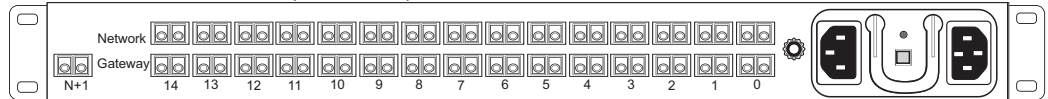

Figure 1.4
- If the 7800 series gateway employs N+1 protection, one to two 7800 N+1 patch panels are used to provide protection for the TDM network. See figure 1.4 on page 3.
- If the 7800 series gateway employs 1+1 protection, one to two 1+1 patch panels are used to provide protection for the TDM network. See figure 1.4 on page 3.